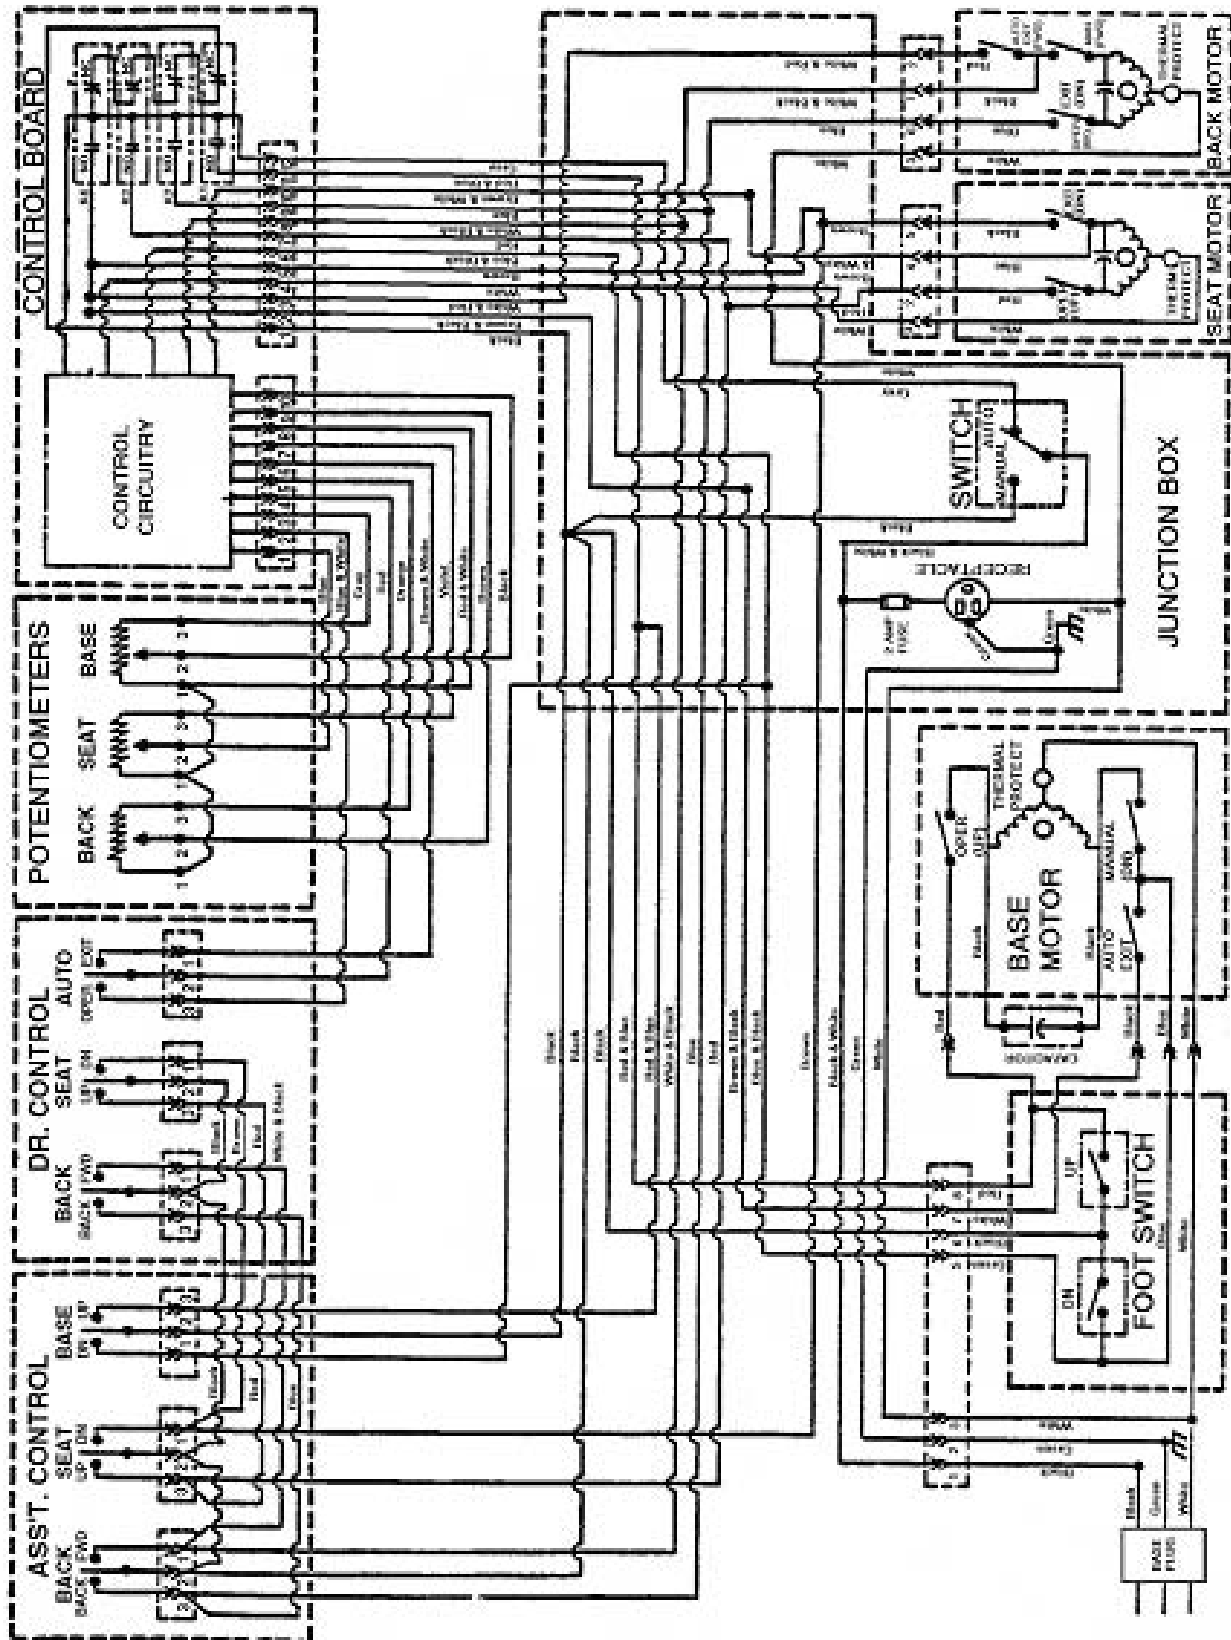

Figure 2-1. Wiring chart for the JSA-R Dental Chair.
a. **Manual Mode Circuit Description.** Refer to figures 2-1 and 2-2.
(1) Raising the chair. To raise the chair you use the bottom switch on the assistant's side of the chair or the foot switch. This applies power.
(4) Tilting the seat down. 125v is applied to the junction box, through the mode switch to the common of the seat adjust switch. When you select down, power is applied out the orange wire from switch pin (1) to the junction box, along the brown wire to the exit down windings. It energizes the motor and lowers the seat.
(5) Reclining the back. Zero voltage is applied to the back adjust motor as it is applied to the seat adjust motor. 120v is applied through the mode switch to the common of the back adjust switch, pin (2). The switch is pushed to the back position bringing 120v through switch, pin 3, out the blue wire to the junction box. Out of the junction box at terminal strip pin 4, power is applied to the back windings. It energizes the motor and reclines the back.
(6) Tilting the back up. Power is applied to the common of the back adjust switch through the junction box and the mode switch. When the switch is depressed to the forward position, power is applied through switch pin (1), out the white wire to the junction box to the manual up windings. It energizes the motor and brings the chair forward.
b. Automatic Mode Circuit Description. Refer to figures 2-1 and 2-2.
(1) The automatic control board. The control board is located underneath the footrest on the bottom of the seat itself. The board contains the control circuit consisting of transistors and three operational amplifiers driving four relays. There are (3) potentiometers used in conjunction with the control board. They are located on the back of the chair to allow access for the doctor or assistant to preset to a desired position.
(2) Operate mode.
(1) The automatic control switch is faulty. To test this, you test the automatic control switch using the procedures shown under probable cause number 14 for the chair not lifting, "automatic controls are not functioning." If any of the 14 testing procedures prove positive, you use the corresponding corrective action to fix the malfunction. Refer to figure 2-1, Control Board portion.
(2) The automatic control board is faulty. To test this, you test the automatic control board as shown under probable cause number 7, "faulty solid state automatic control board." If the test proves positive, remove and replace the automatic control board.